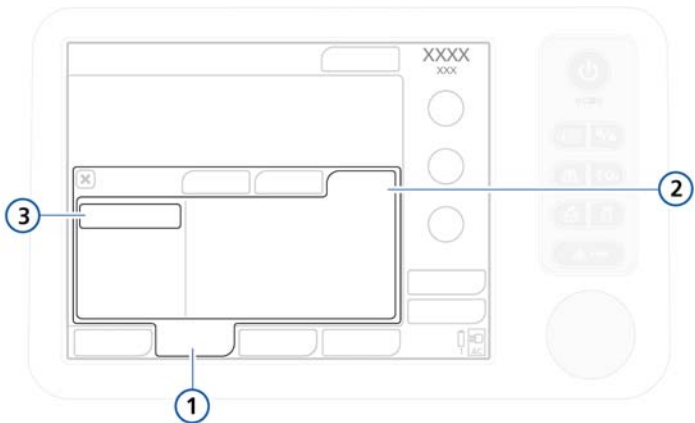

Figure 3-8. Data transfer window 1
2. Open the Utilities -> Data transfer window (Figures 3-8), and select **Export logs**.